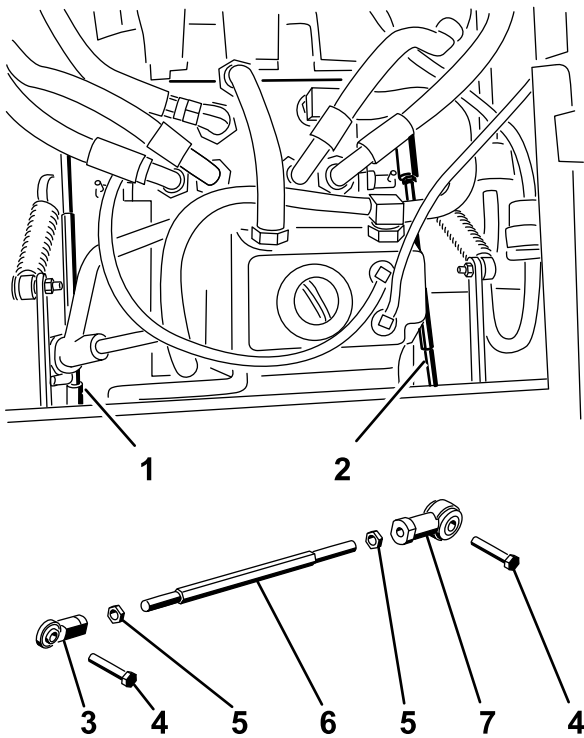

Figure 65
5. Adjust the pump rod length on one side by rotating the hex shaft, in the appropriate direction, until the corresponding wheel is still or slightly creeping in reverse (Figure 65).